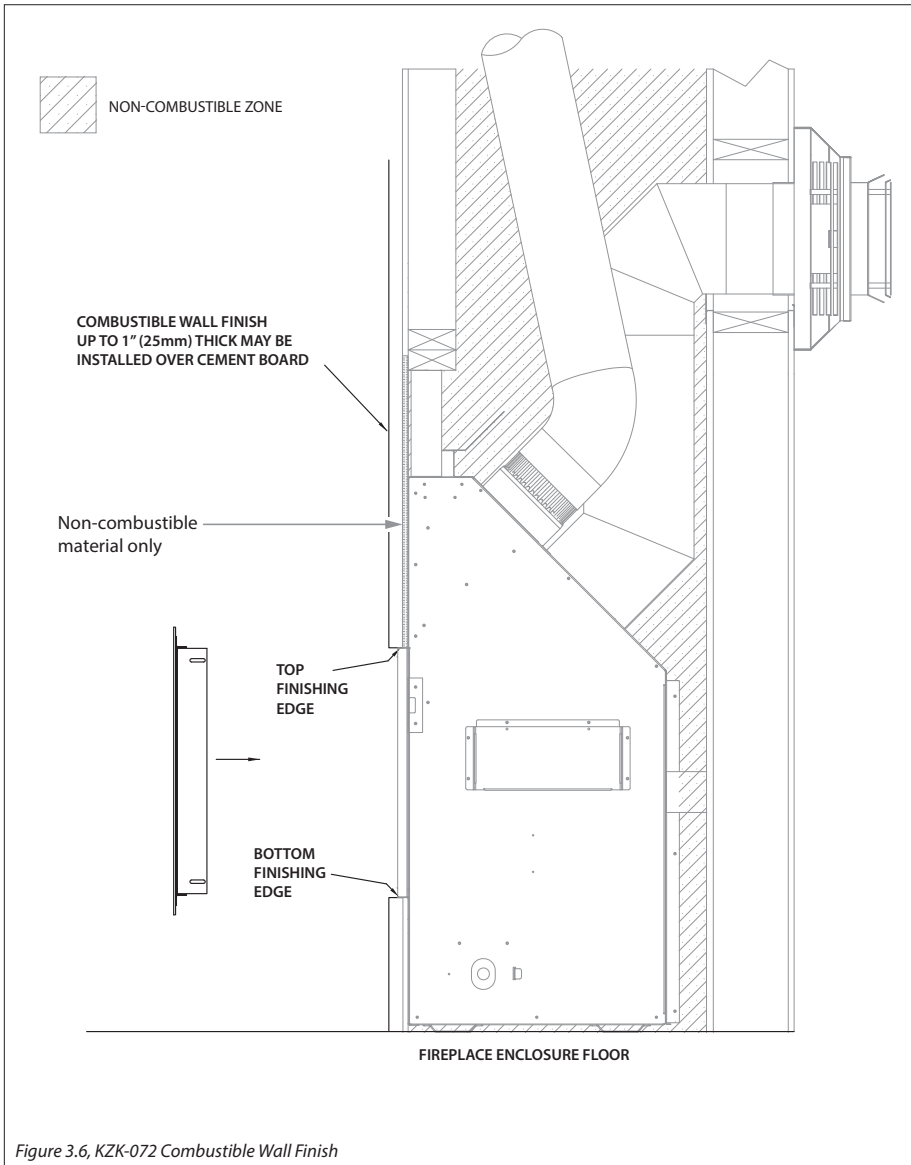

Figure 3.6, KZK-072 Combustible Wall Finish
- Figure 3.6 shows installation of combustible wall finish up to 1" thick. This combustible material goes on any required non-combustible materials as shown in Figure 3.1 on page 10.